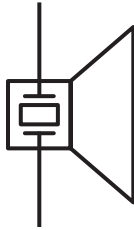

Figure 4-38: Piezo schematic
The schematic symbol for the piezo looks like a loudspeaker (Figure 4-38), which makes it easy to recognize.
**NOTE** *When shopping for a piezo for this project, be sure to get the piezo element only type; some buzzer types look like Figure 4-38 but include a tone-generating circuit built into the case. We don't want those because we're going to drive our tone directly from the Arduino.*